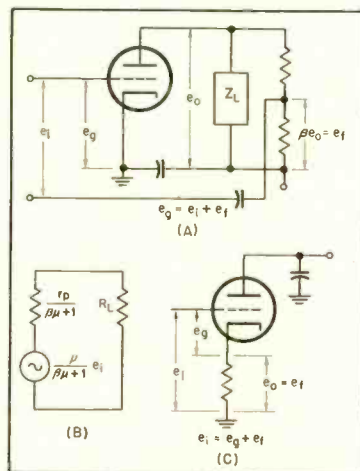

Fig. 1. (A) General schematic of voltage feedback circuit, and (B) its equivalent. (C) Simple cathode follower circuit.
**A**LTHOUGH THE ADVANTAGES and method of operation of the cathode follower have been known for years and covered thoroughly in the literature, there has been relatively little material devoted to the use of the circuit as an audio power output stage.1 As a result, there are widespread misconceptions regarding this use of the cathode follower, even among otherwise well-informed engineers. These misconceptions involve: (1) the relation between the static and the dynamic characteristics, i.e., between d.c. and a.c. conditions; (2) impedance matching; and (3) damping effects. These three concepts are those usually misunderstood in treating negative voltage feedback amplifiers in general, and consequently, the conclusions obtained here for the cathode follower will be directly applicable to other voltage feedback circuits.
The simple general negative voltage feedback circuit, its equivalent, and the simple cathode follower circuit are shown in Fig. 1 at (A), (B), and (C) respectively. The fraction of the output voltage that is fed back out of phase with the input voltage is denoted by  $\beta$ . For the cathode follower,  $\beta$  is 1, and consequently there is 100 per cent inverse feedback. From (B) it may be seen that since the equivalent generator magnitude is  $\mu/(\mu\beta + 1)$  times the input, the cathode follower can never give a voltage gain, but must always result in a loss, the value of which depends directly on the amplification factor of the tube. There can be, however, a considerable power gain, and it is this fact that makes the circuit useful as a power output stage.
Figure 2 shows the plate characteristic for a rather high  $r_p$  power triode—the 807 triode connected. For cathode follower operation the value of  $\beta$  is unity. Then for any cathode voltage  $e_o$  the feedback voltage  $e_f$  equals  $\beta e_o$ , which is  $e_o$ . A voltage of 300 on the cathode represents a feedback voltage of 300. Reference to (C) of Fig. 1 will show that the voltage polarity is defined as positive in the direction from ground to cathode and that the plate of the tube is at ground potential for a.c. voltages. The plate-to-cathode voltage is therefore negative as far as the defined voltages are concerned. If the plate voltages on the plate family characteristics (which are, of course, plate-to-cathode voltages) are taken as negative for the feedback conditions of the cathode follower, these characteristics can be used to create a new set of curves valid for cathode follower operation.